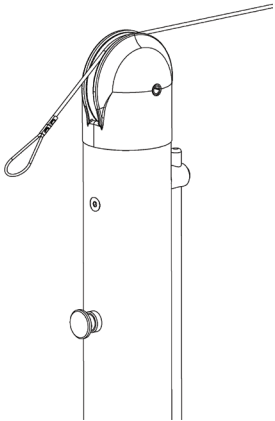

Figure 6
STEP 6: Place one end of the top cord cable over the pulley of Post B (Item # 2) and attach the cable loop around the net hook on the backside of the post. See Figure 6 & 7.